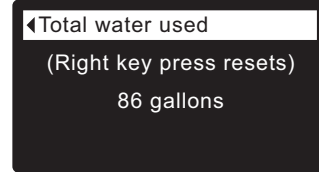

FIG. 66
6. The **Total water used** screen (See Figure 66) shows the volume of water used since it was last reset (it works like the trip odometer in a car). To reset the value to 0, press the RIGHT (▶) button while this screen is displayed.